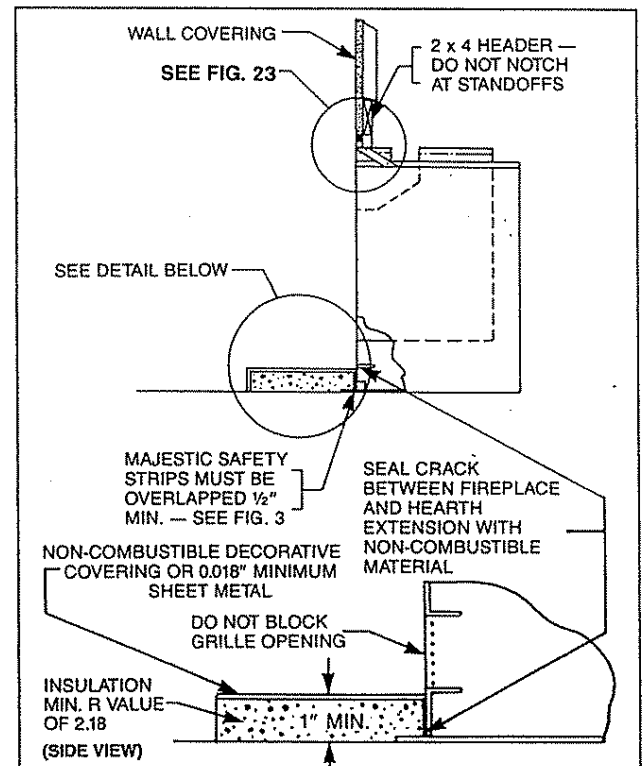

Fig. 27. Sealing detail.
A hearth extension is required to protect combustible floor construction in front of the fireplace. (See Figs. 27 and 28.)
The hearth extension described in Fig. 27 must be constructed of a rigid insulation with a minimum (total) RT value of 2.18. (See Table 4 for examples.) The overall height (above combustible floor), depth and width must be as indicated, with it centered to the fireplace opening.
The top of the insulation must be covered with a non-combustible decorative covering or a piece of .018" minimum sheet metal, to protect the hearth extension material. (See Fig. 27.)
Secure the hearth extension to the floor to prevent shifting, using trim molding or other similar means at the three (3) outer edges. Seal the crack between the fireplace hearth and the hearth extension with a non-combustible material. (See Fig. 27.)
**WARNING: HEARTH EXTENSION MUST BE INSTALLED IN ACCORDANCE WITH FIGS. 27 AND 28 AND MUST NOT COVER THE GRILLE OPENING OF THE FIREPLACE.**